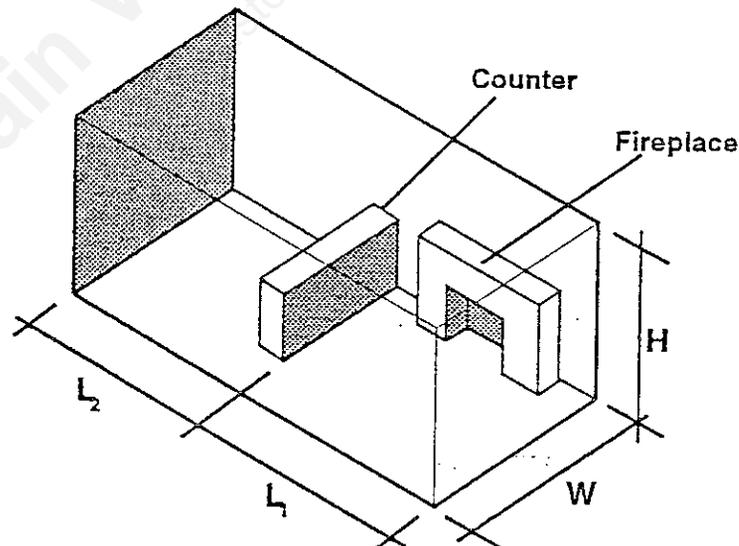

Figure 1: Example of Large Room with 1/2 Wall Divider
Example: Refer to *Figure 1* on the previous page; two (2) connecting rooms with an open area between, with the following dimensions: